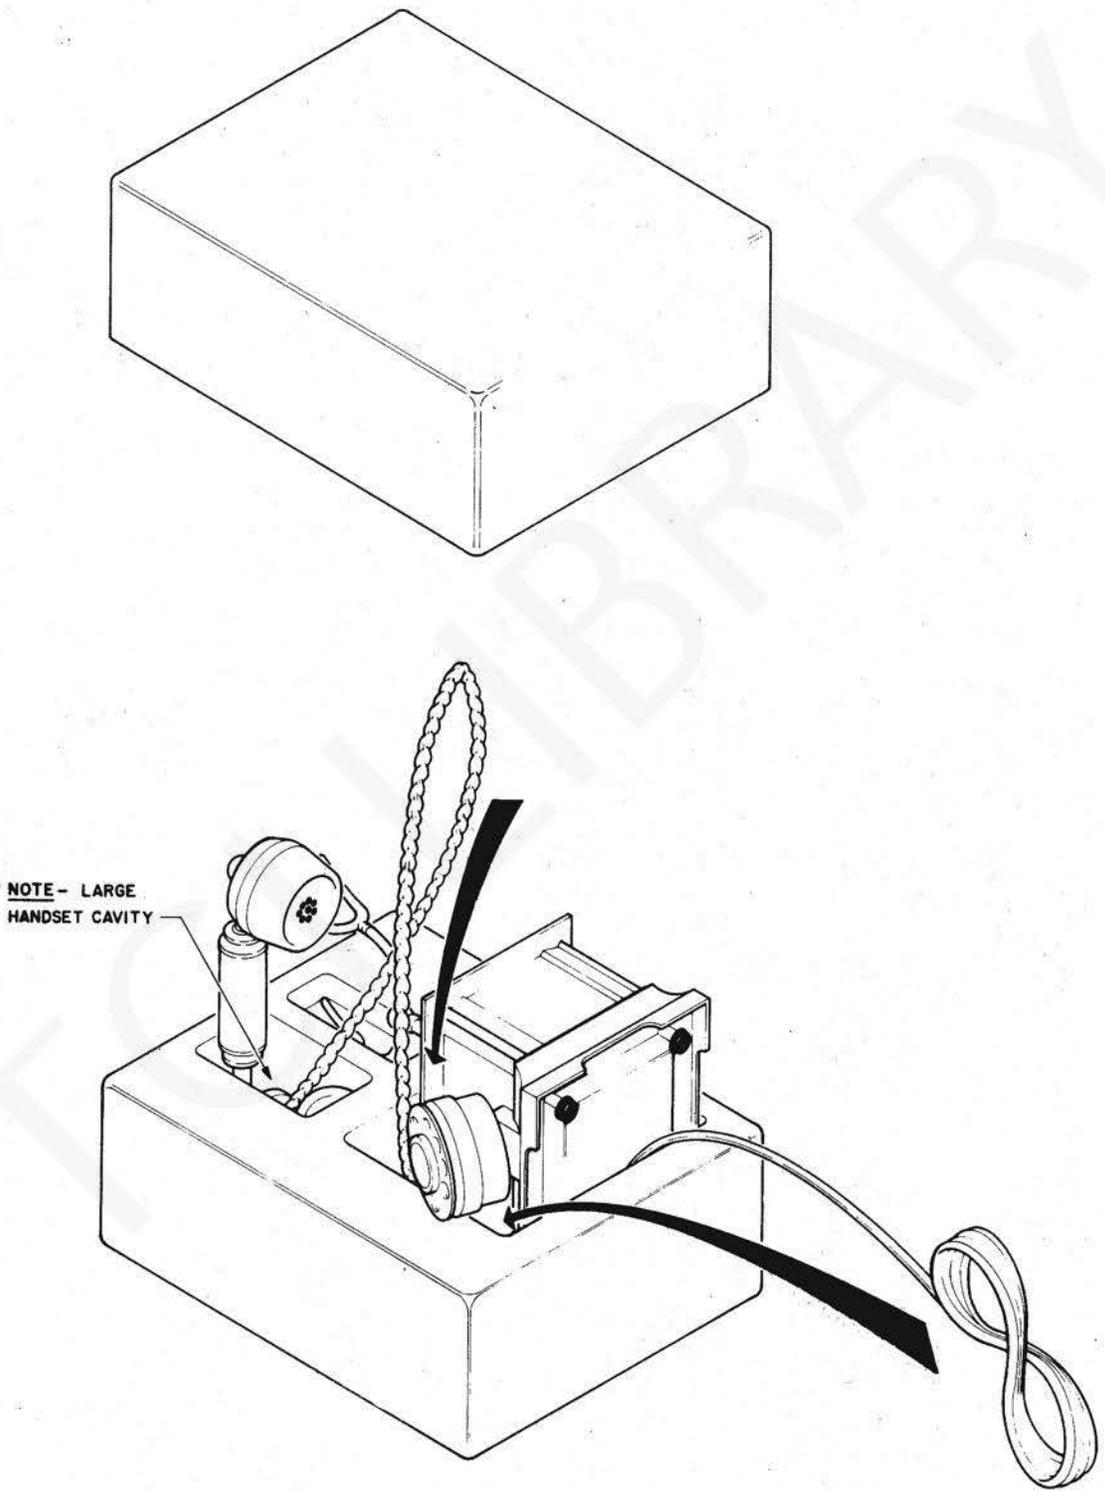

Fig. 12 - Telephone Set Packing Instructions
- (1) Obtain the original packing material.
- (2) Place a large plastic bag completely over the telephone set housing.
- (3) Place a plastic bag completely over the handset.
- (4) Place the housing and handset in their respective cavities in the foam inserts. Gather the mounting cord as shown in Fig. 12, and place in the housing cavity under the dial as shown.
- (5) Arrange the handset cord in a similar manner as the mounting cord.
- (6) Enter the complete assembly into the carton.